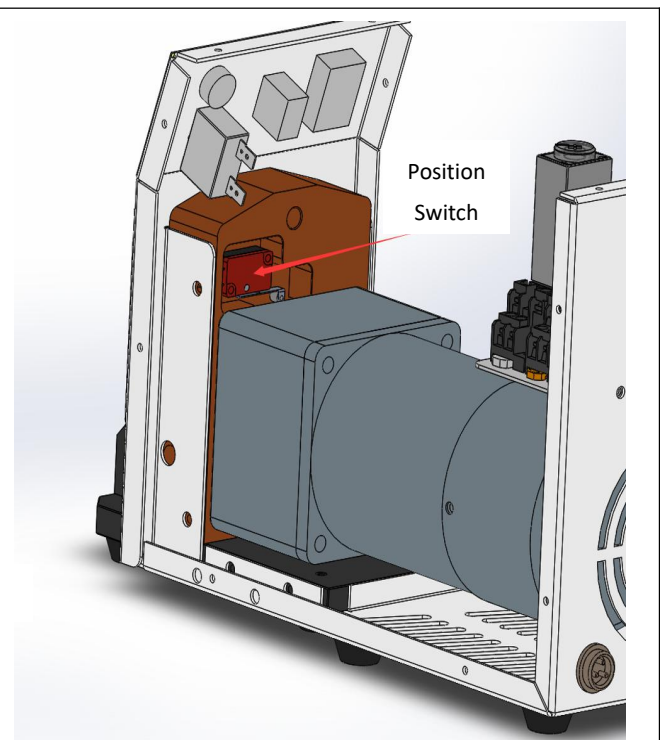

Figure 13. Position Switch
**Position Switch (Figure 13):** to determine the start position and stop position of equipment. The switch is not controlled by the delay controller combination. If the stop position of eccentric cam changes due to motor brake pads worn, and the cam's clearance is incorrect because of its incorrect stop position or the position switch is damaged, the equipment will keep stamping!